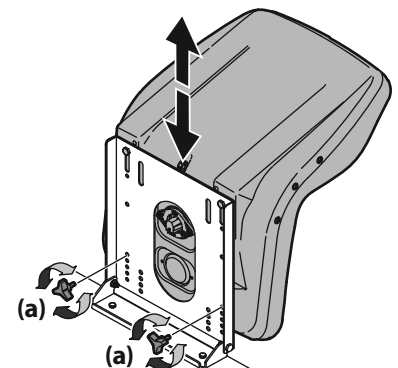

Figure 15
3. Replace the knobs into one of the four hole settings and tighten securely. See Figure 15.